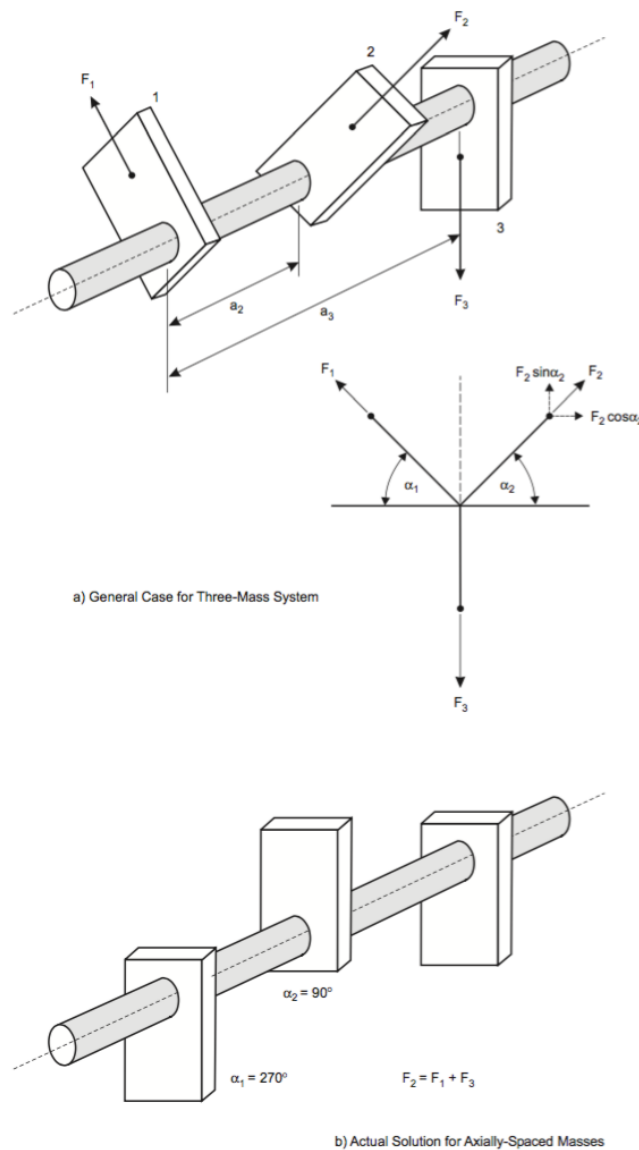

Figure 6: Dynamic balance for three mass system
- Set up two of the blocks, as shown in figure 6, with the relative angular displacement of 180 degrees and shaft-wise displacement of 120mm. use the slider to set and read off the positions of the blocks of the blocks.